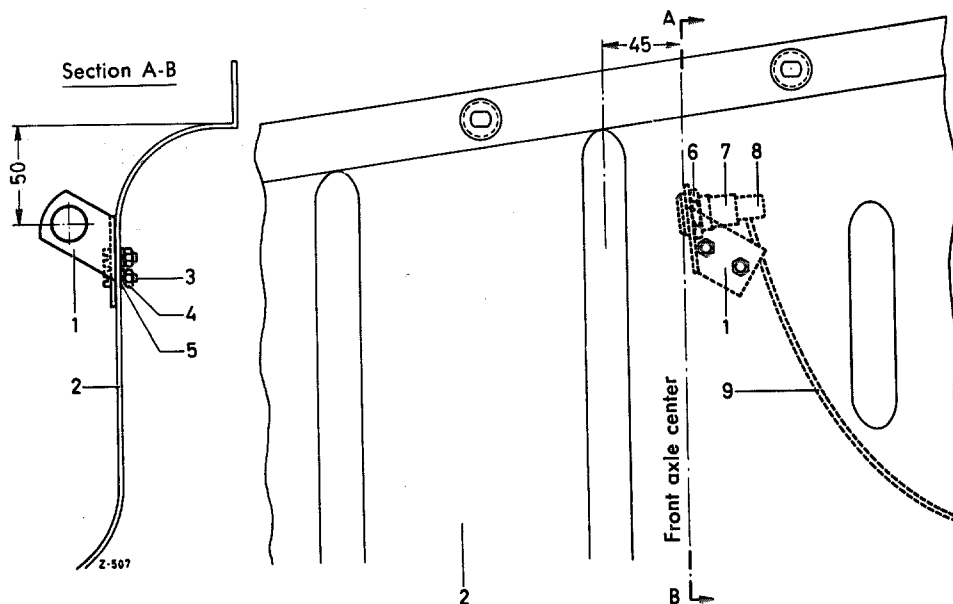

Fig. 54 — 20/1
1. Hold the bracket (1) for the socket (7) of the inspection light, according to the dimensions given, against the left wheel arch panelling (2), mark the fixing holes and bore them out with a 5.5 mm diameter drill (see Fig. 54 — 20/1).
2. Tin the wheel arch panelling at the point where the bracket (1) butts against it.
3. Tin the bracket (1) at the point where it butts against the wheel arch panelling and screw it to the wheel arch panelling (2) by means of the two cheese-head screws (3) AM 5 × 10 DIN 84 — 4 S with lock washer (5) and hexagon nut (4) (see Fig. 54 — 20/1).
4. Place the socket (7) in position in the bracket (1) and screw up and tighten the hexagon nut (6). When this is done, the plug (8) and the screw must be effectively insulated.
5. Pull an insulation sleeve B 3 × 3.8 sw, 950 mm long, over the cable (9) A 1 DIN 72 551, 1000 mm long (black) and connect the cable (9) to the socket (7) and to the fuse box at Fuse No. 1.